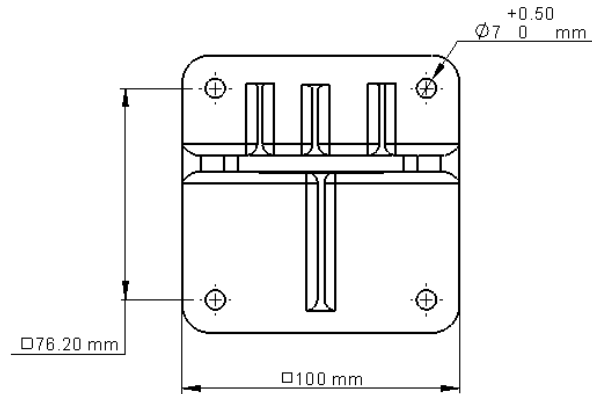

Figure 13 – Tilt Mount Base - Plate View
1. Mount the tilt mount base (Figure 13 – Tilt Mount Base - Plate View) to a solid structure using four suitable fixings through the four 7mm (0.28") diameter holes. Four captive screws with spring washers are provided in the tilt mount.